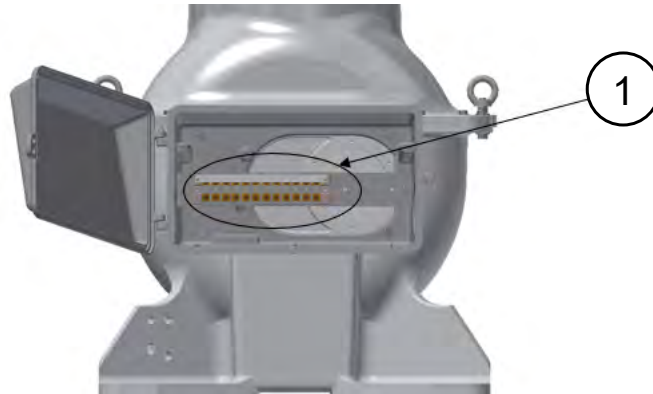

Fig. 11: Terminal box with secondary terminals
3. Guide the cables on the secondary side through the cable entry on the underside of the terminal box, Fig. 11.
4. Connect the secondary cables to the secondary terminals (M6) in the terminal box of the transformer (Fig. 11, tightening torque: max. 5 Nm).